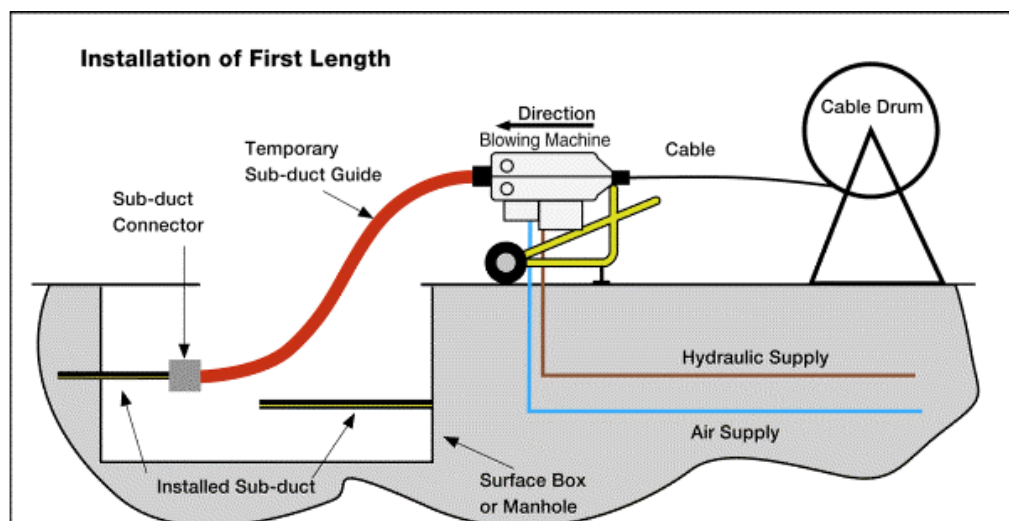

Figure 1 Schematic diagram showing correct position of plant and equipment for end to end installation
4. Set up Cable Blowing Machine at top of Manhole or surface box (see Figure 1). Position vehicle and cable drum such that the area can be safely road works guarded.